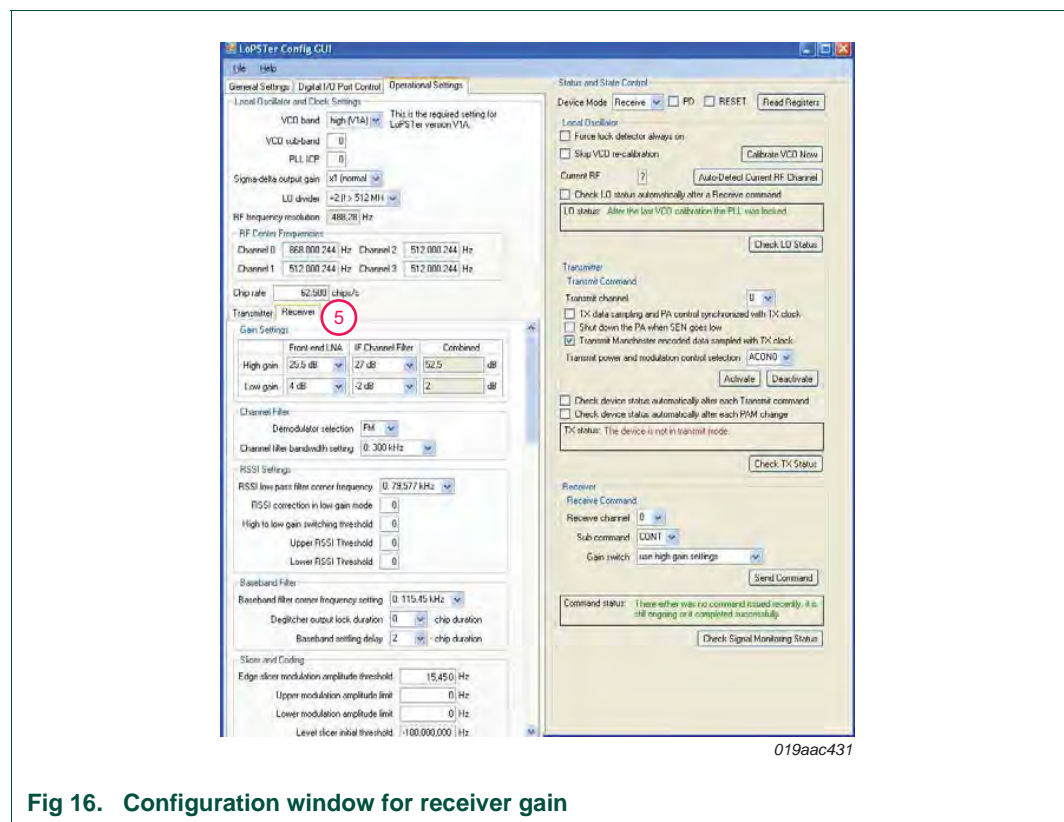
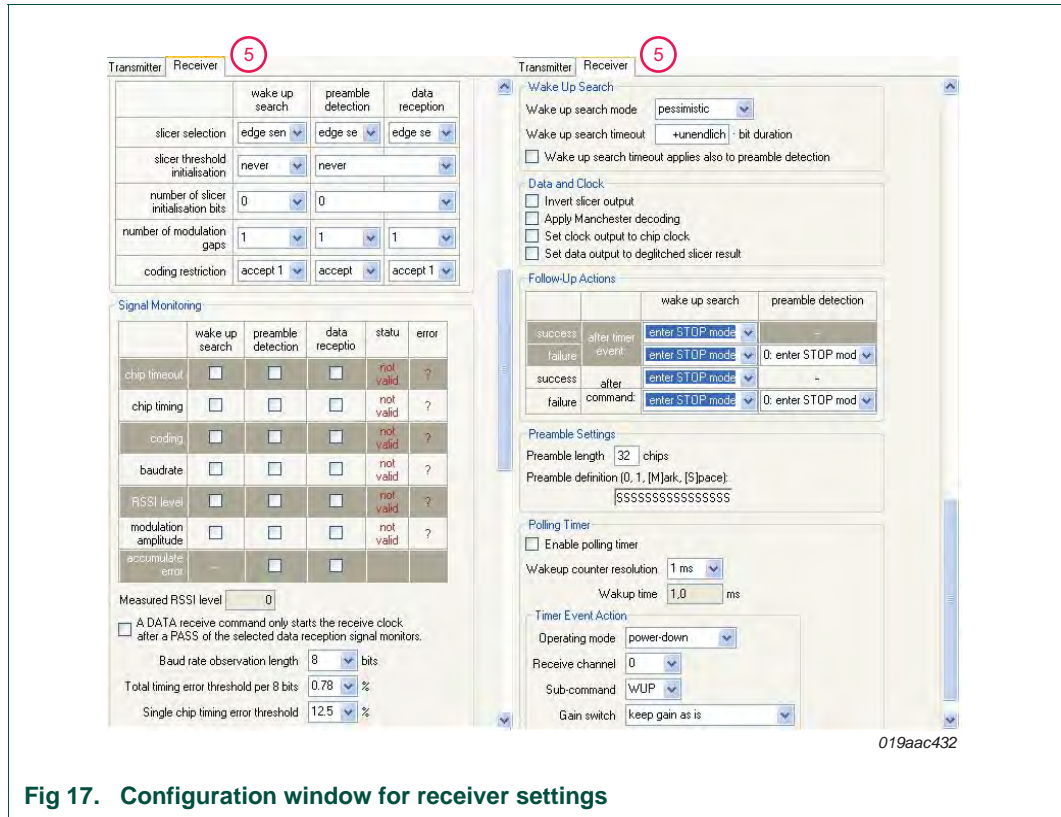

Fig 16. Configuration window for receiver gain
Fig 17. Configuration window for receiver settings
The receiver parameters, shown by 5 in Figure 16 and Figure 17, are discussed briefly in this section.
- **Gain Settings** defines the front-end gain, **LNA** and **IF** filter, where high gain, shown in Figure 16, is the recommended setting
- The appropriate settings for signal monitor, wake-up, preambles, polling timer together with data and clock sections are scrolled down sections as shown in Figure 17. Examples of the types of data shown are: